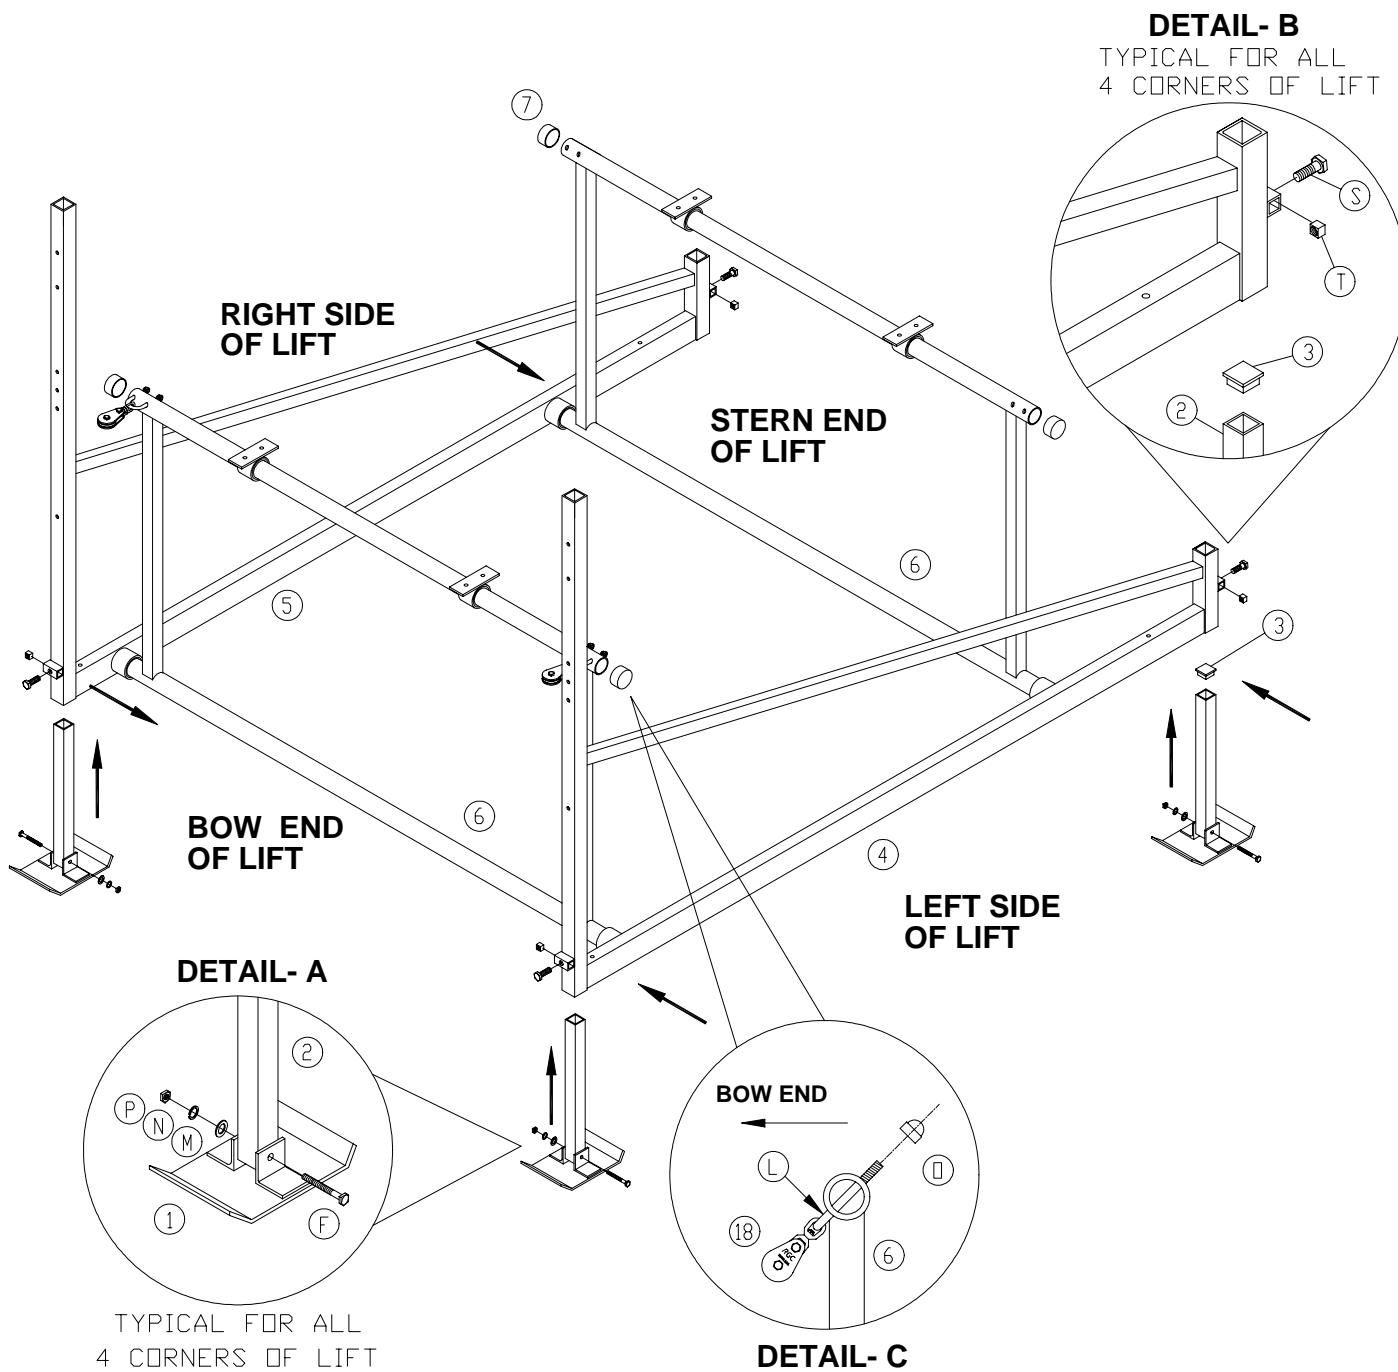

Figure 3-1.
1. Refer to **Figure 3-1**. Attach foot plate to extension leg as shown in **Detail A**. Repeat procedure for all four foot plates.
1. Refer to **Figure 3-1**. Insert plastic caps onto the tube ends containing the pivot bunk mounting brackets of the lifting arms.
1. Insert a U-bolt through the swivel of the polymer block. Install the U-bolt on each end of the bow end lifting arm assembly. Insure U-bolts are angled downward facing the bow end when the lifting arm is in the upright position, as shown in **Detail C** of **Figure 3-1**.
1. Refer to **Figure 3-1**. Adjust extension legs to height required to keep lift level in its operating position. Tighten with lock screw at all four corners of lift as shown in **Detail B**.